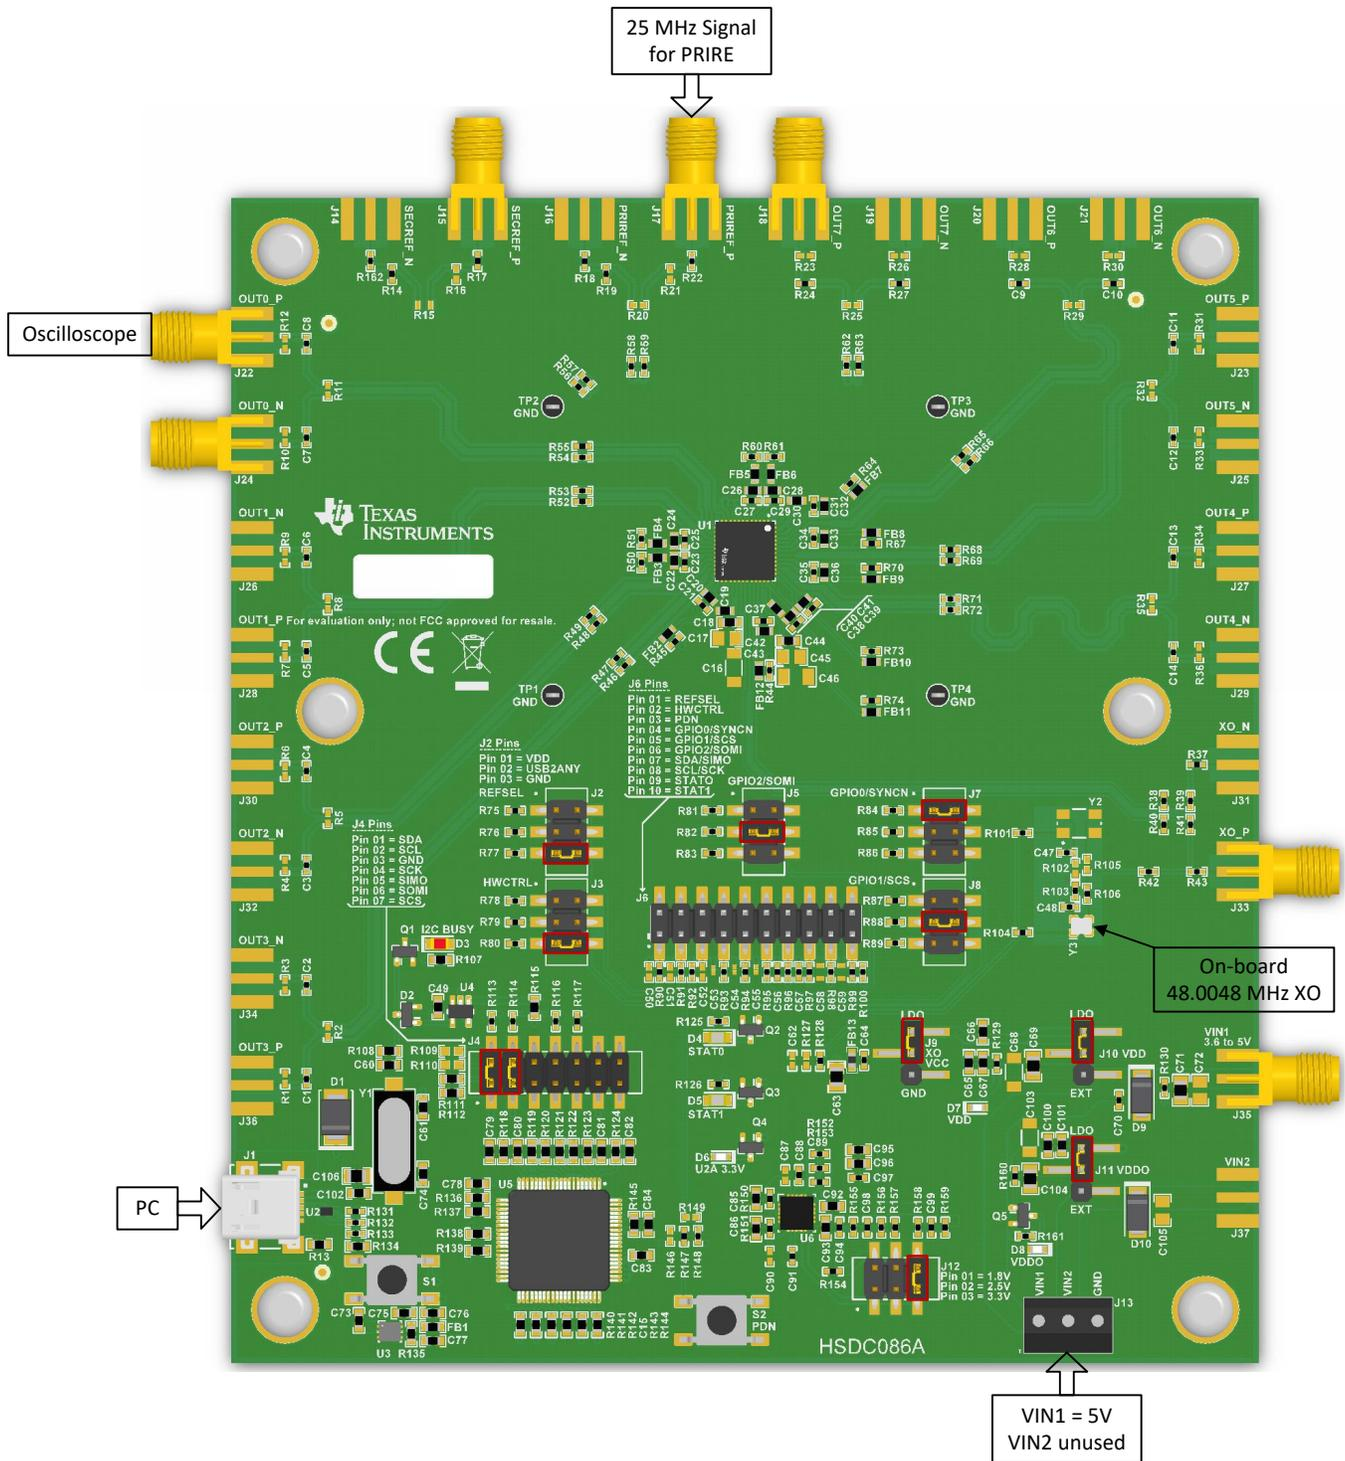

Figure 1. LMK05318B EVM with Default Jumper Settings
1. Verify the jumper settings according to Table 1 and Figure 1.
2. Set up the board as shown in Figure 1.